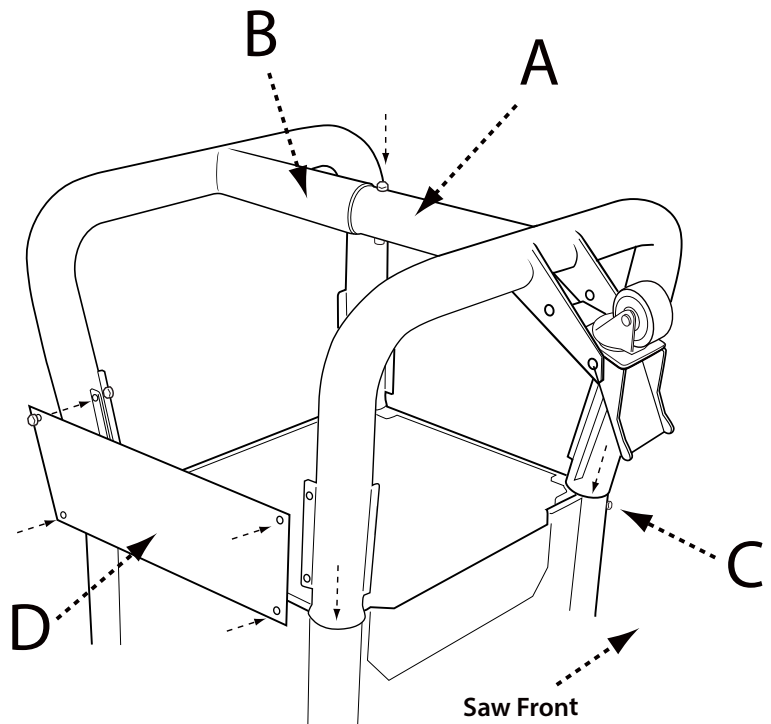

FIGURE 1
1. Connect the two tube legs by inserting the end of the left leg (A) into the end of the right leg (B) as shown in Figure 1. Secure with a M8 x 70mm carriage bolt, lock washer and nyloc nut and tighten.
2. Insert the four open ends of the tube legs into the leg collars (C) as shown. Secure each leg with a 6mm x 70mm bolt and nut.
3. Attach the back and front leg support panels (D) to the legs using four M6 x 12mm self-tapping bolts.